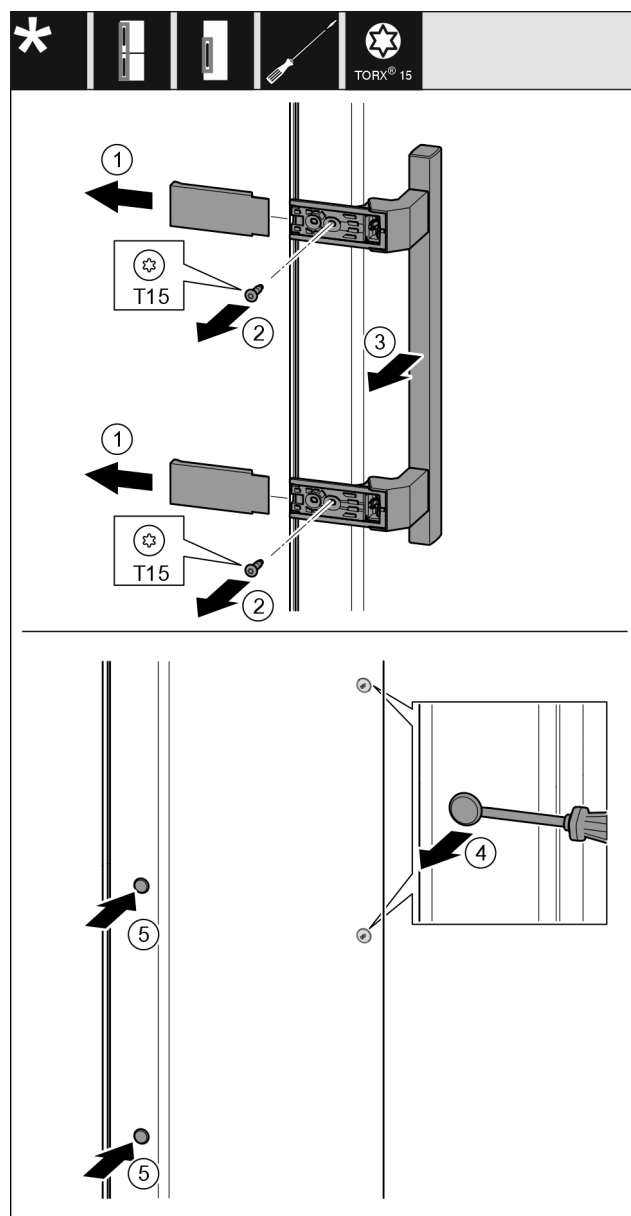

Fig. 42
- Pull off the cover Fig. 42 (1).
- Turn out the screws Fig. 42 (2) with the screw driver.
- Remove the handle Fig. 42 (3).
- Carefully lift the side plug Fig. 42 (4) with a slotted screwdriver and pull it out.
- Reinsert the plug Fig. 42 (5) on the other side.